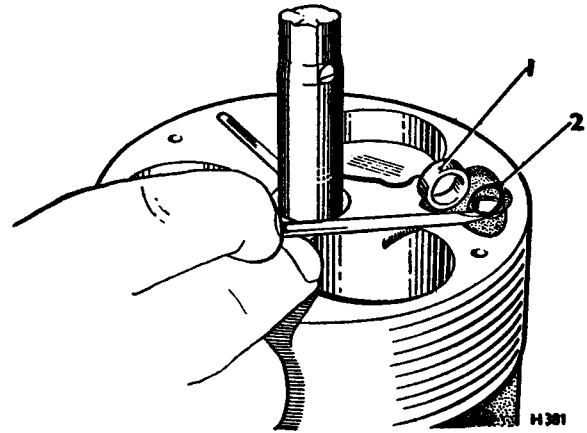

FIG. C22 FITTING THE CROSS-OVER TUBE 'O' RING
2. Fit a new 'O' ring and bush on to the front end of the discharge cross-over tube (see Fig. C22).